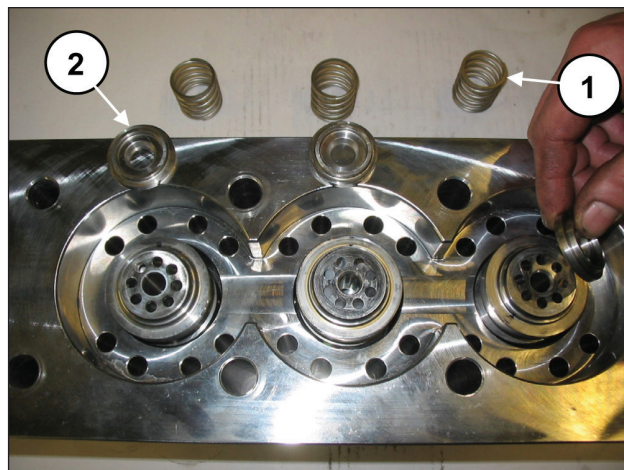

Fig. 103
During disassembly of the liners, take care not to disperse the valve springs and the flat valves (pos. ① e ②, Fig. 103) as, not being locked, they could fall.